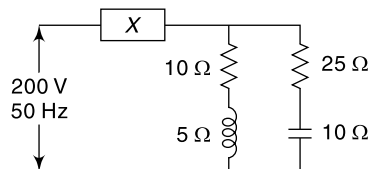

Fig. 5.39 Circuit diagram for Ex. 5.38
5.38 Find the value of unknown reactance 'X' so that p.f. of the circuit will be unity in Fig. 5.39. Also calculate the current drawn from the supply.